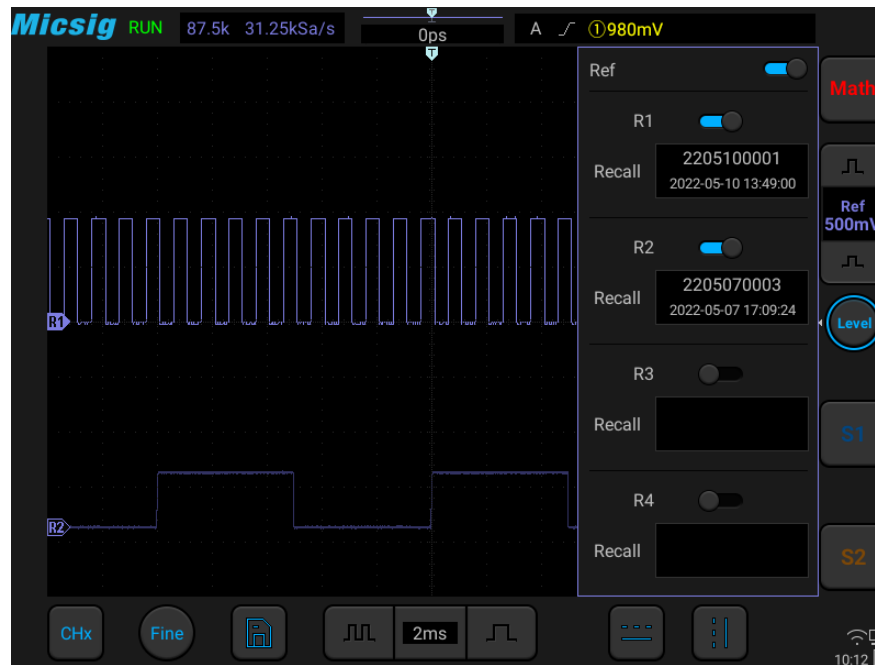

Figure 9-6 Reference Channel Menu
- 3) Click the name of the reference waveform file to be called. The file is loaded into R1 channel. Then, R1 channel is turned on as the current channel waveform, and the reference waveform channel icon  is highlighted. The displayed state changes from “Close” to “Open”. As in Figure 9-6, the brighter reference waveform is shown as the current reference channel.